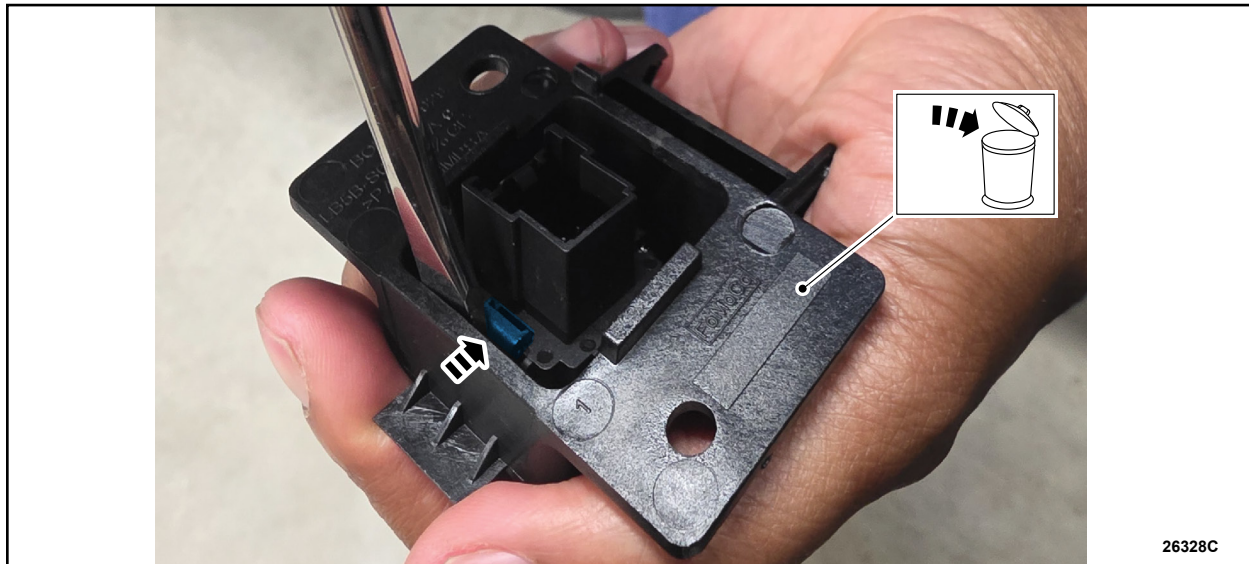

FIGURE 5
4. Using a flat head screwdriver or equivalent, gently press against the tab and remove the second row single seat easy entry seat fold switch from the housing. Save the switch for reassembly. Discard the housing only. See Figure 5.